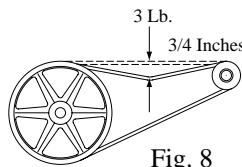

Fig. 8
- **Check belt tension.** A 3 lb. force should deflect the belt $3/4$ inches (see Fig. 8). Readjust belt if needed.